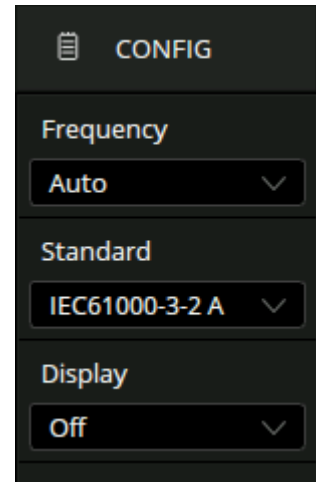

Figure 19.4 Harmonics Analysis Menu
1. Touch **Config** to display the Config menu shown in figure 19.4